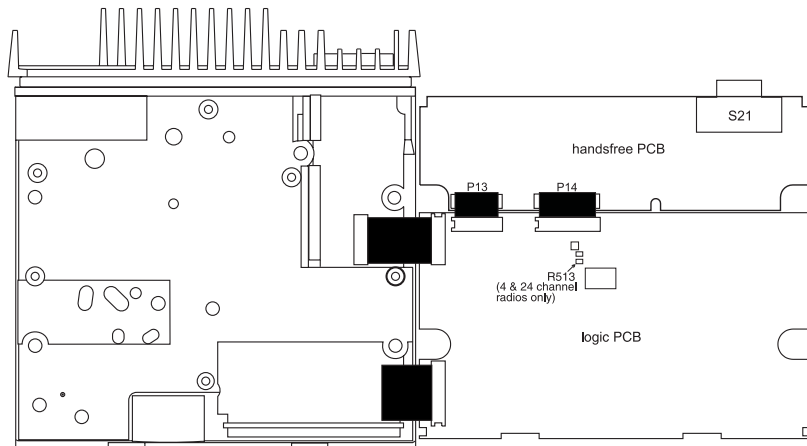

Figure 1: Handsfree PCB Mounting
Refer to Figure 1.
3. T2010 & T2015: remove R513 (0Ω resistor), on the logic PCB (refer to Figure 1).